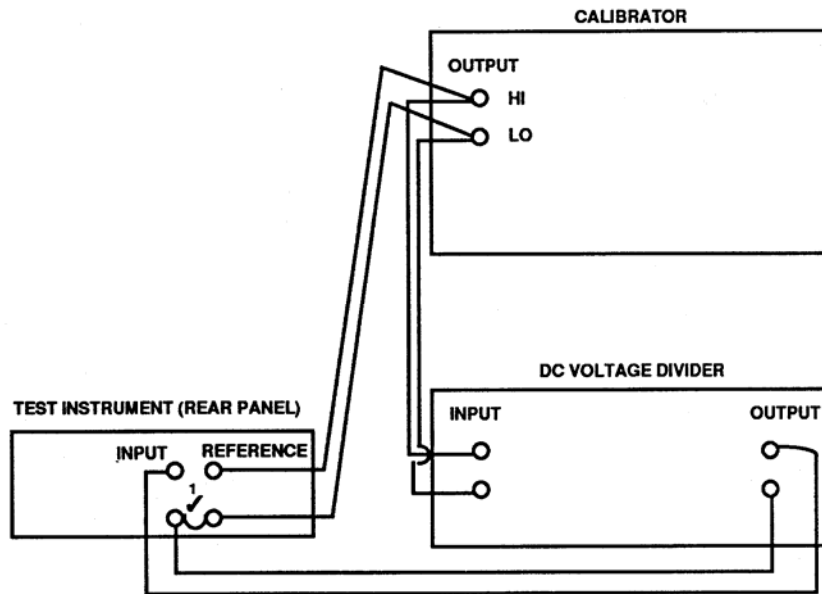

Figure 1. DC ratio.
(1) Connect equipment as shown in figure 1.